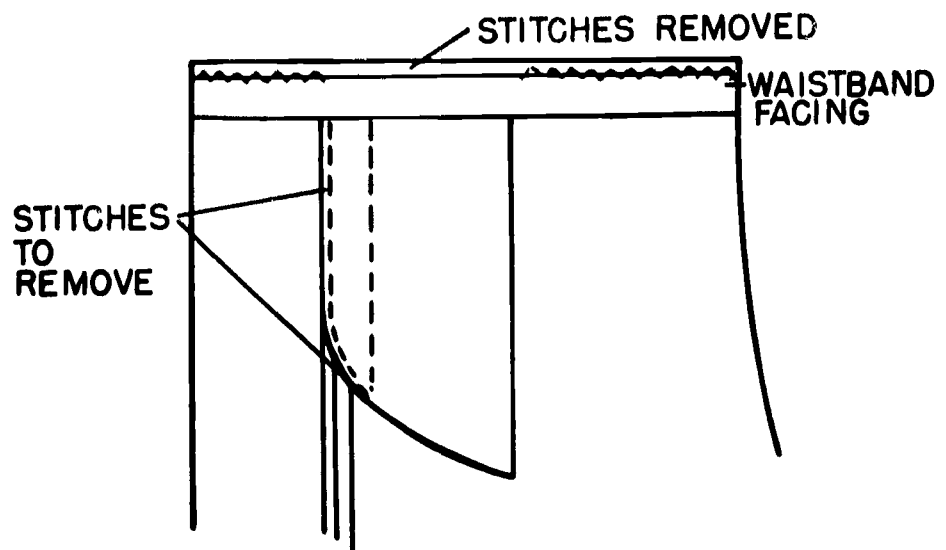

Figure 79.
2. Remove stitches holding top of pocket in place. Rip out seam on pocket sides and bottom (see Figure 79).